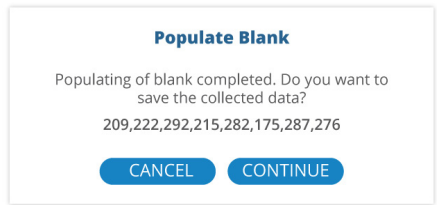

Fig. 25—The message indicates that the blank measurements have completed.
9. After the measurement is completed, a message appears (Fig. 25). Press *OK* to complete the sequence. You may re-sample the blanks as many times as desired, now or in the future, by loading this data set and running the *Populate Blank* option again.